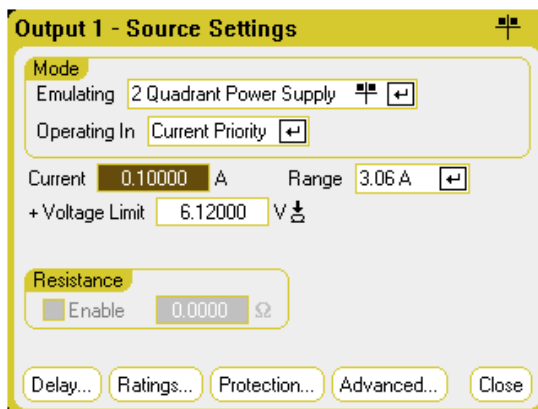

Figure 10 N6782A SMU’s Source Settings from the N6705C Front Panel Display
- b Use the front panel **Source > Settings** buttons to display the source Settings screen. Using the navigation and entry buttons, set up the source settings as follows (depicted in Figure 10).